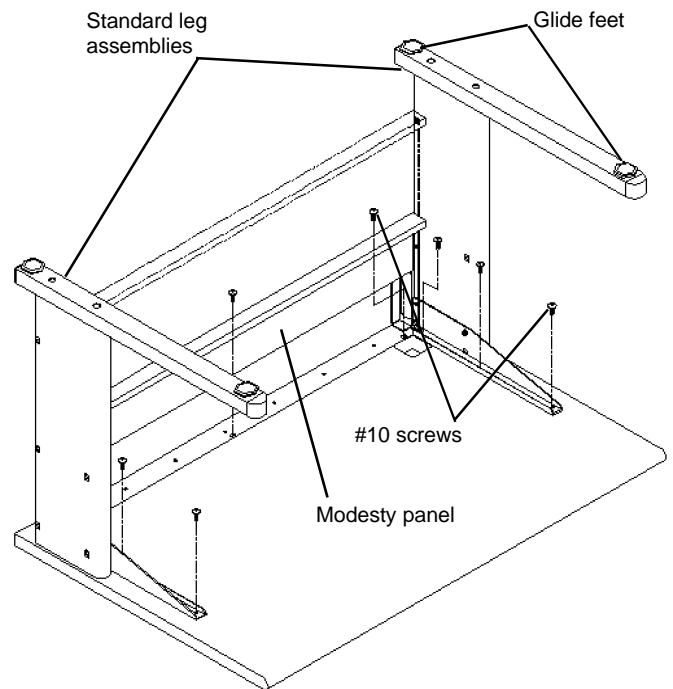
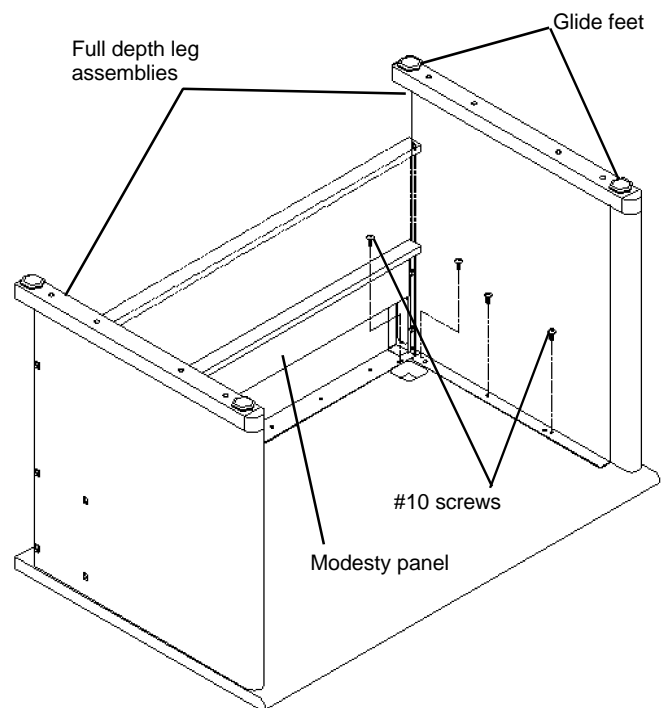

Figure 3a
Figure 3b
2. Place the assembled legs and Modesty Panel on the Worksurface and align its pre-drilled holes with those in the Panel and Legs. Attach with the #10 screws provided. See **Figure 3a** and **Figure 3b**.